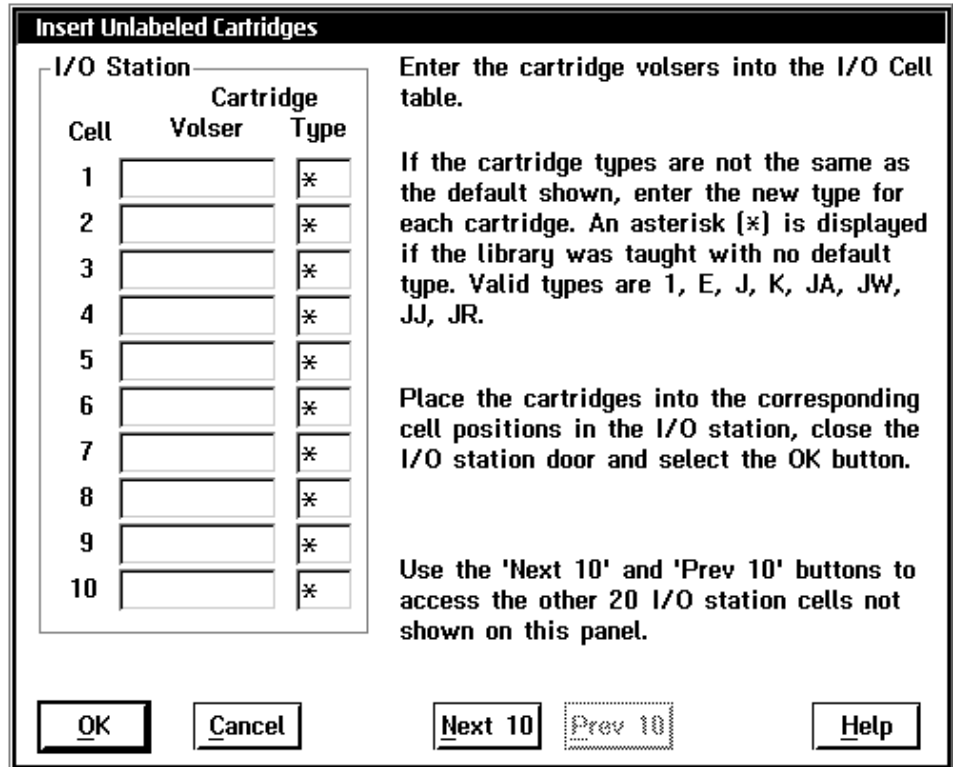

Figure 194. Insert Unlabeled Cartridges Window
2. In the spaces in the Insert Unlabeled Cartridges window (Figure 194 on page 273), enter the volsers and the cartridge type of all the cartridges you want to insert.
You can use the Insert Unlabeled Cartridges function to insert empty stacked volumes for a VTS. To be successful, the volser must fall into a stacked volume volser range (see Figure 194 on page 273), and the media type must be **J** or **K**. However, IBM recommends that you **DO NOT** use the Insert Unlabeled Cartridges function for stacked volumes in normal operations. You should use it only for reinserting volumes that have a damaged external label.